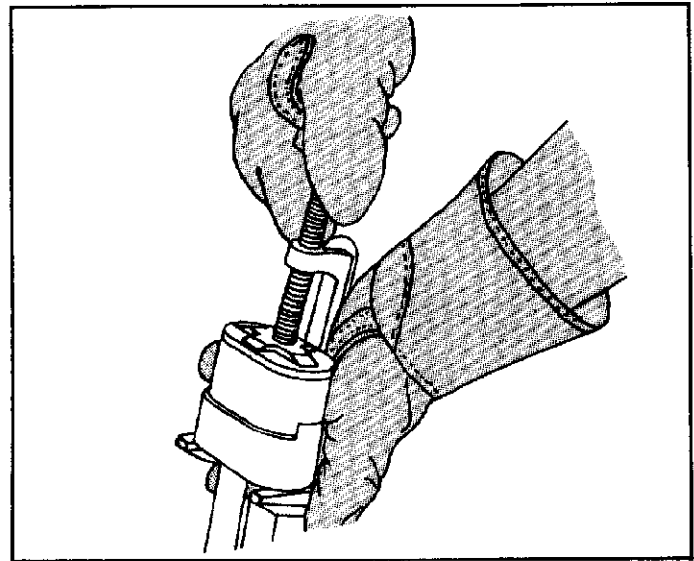

Figure 13
- (k) When last notch is engaged on the cap, operation is complete and connection is sealed (Figure 13). Remove cover-closing tool by turning knob counter-clockwise.